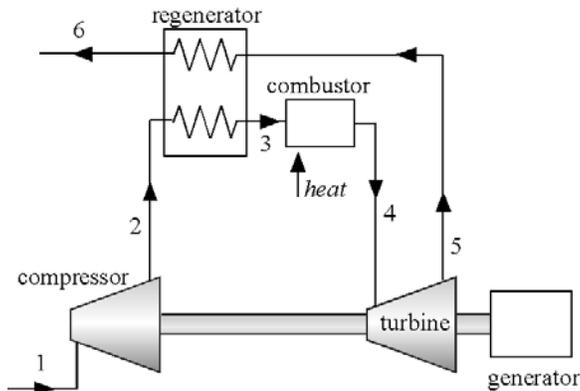

Figure 8.B-5: Gas turbine system
8.B-6 An air-standard gas turbine with regeneration is shown in Figure 8.B-6. The net electrical output is 20 MW. The electric generator has an efficiency of 96%. The conditions at various points in the cycle are given in Table 8.B-5. Assume the air is an ideal gas with specific heats dependent upon temperature.